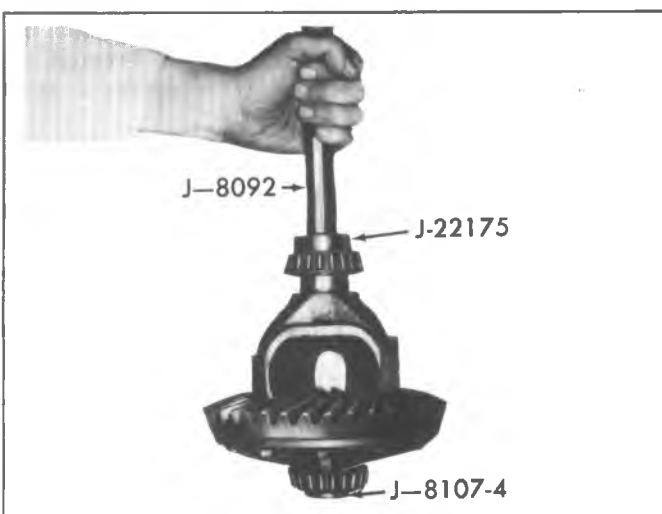

Fig. 4B--Differential Bearing Installation
- Place new bearing on hub with thick side of inner race toward case and drive into place, using J-22175 for 8-7/8" or J-22761 for 8-1/2" or J-29710 for the 9 1/2" ring gear and Driver Handle J-8092, as shown in figure 4B.
- Before bearing installation on opposite hub, support differential case on Adapter Plug J-8107-4 or J-8107-3. This allows differential case to rest on adapter instead of bearing cage. See figure 4B. Install remaining bearing as instructed in step 3.